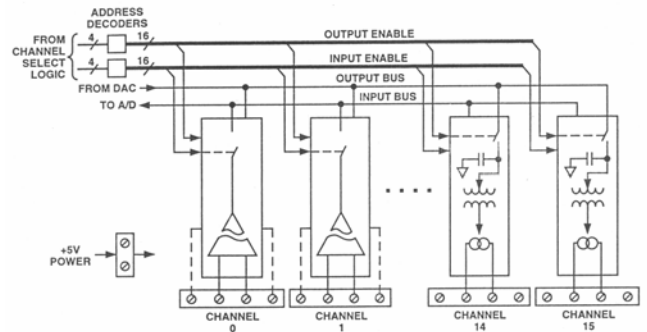

Figure 1 5B02 Functional Block Diagram
**Model 5B02 Backplane** - The 5B02 diagrammed in Figure 1, is a 16 channel backplane. It incorporates input and output buses that take advantage of the internal series output switches in the input modules and the track-and-hold in the output module. Designers integrating the 5B02 into a measurement and control system do not need external multiplexers and can use a single digital-to-analog converter to server numerous output channels. Digital outputs from the host data acquisition system are used to address the 5B Series modules and designate inputs and outputs. Only one analog input, one analog output, and a number of digital outputs are required to address up to 64 analog input/output channels.